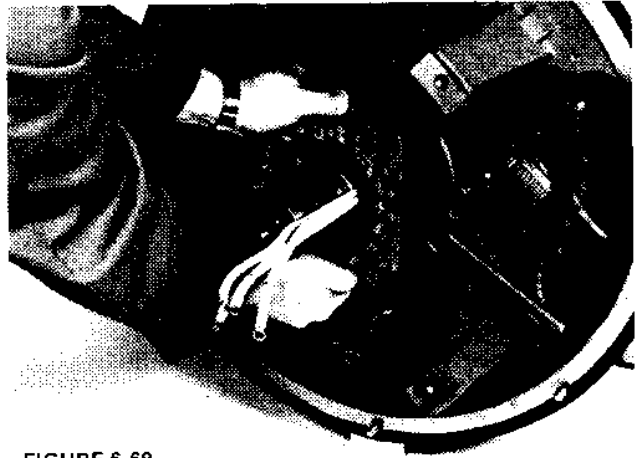

FIGURE 6-69
4. Install the PMG stator on its mounting pads, with the leads in the left (9:00 o'clock) inboard position, and secure with the four mounting capscrews and belleville washers. (Figure 6-69 and 6-72.) Torque to 4 ft-lb (5 N-m).